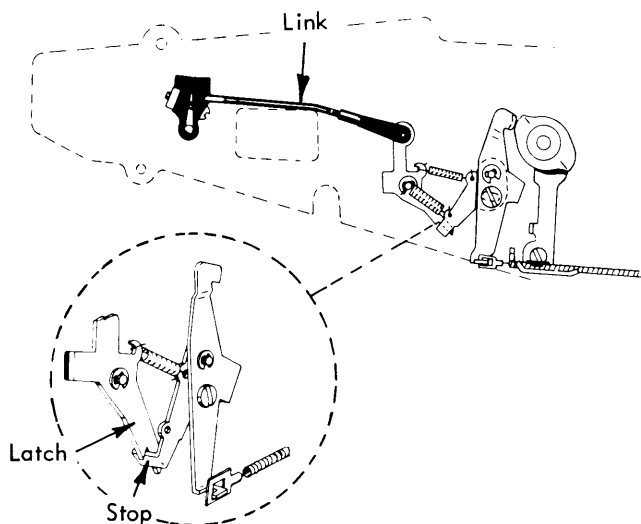

FIGURE 89. Low Velocity Latch Link
9. Low Velocity Latch Link - Adjust the low velocity latch link (Fig. 89) in the following manner: With the machine latched at rest and the low velocity latch held against the adjusting stop on the cam follower, match the pin clevis on the link with the hole in the latch. When matching the clevis, be sure to hold the link toward the rear of the machine so that the low velocity vane will be against the tail of the interposers.